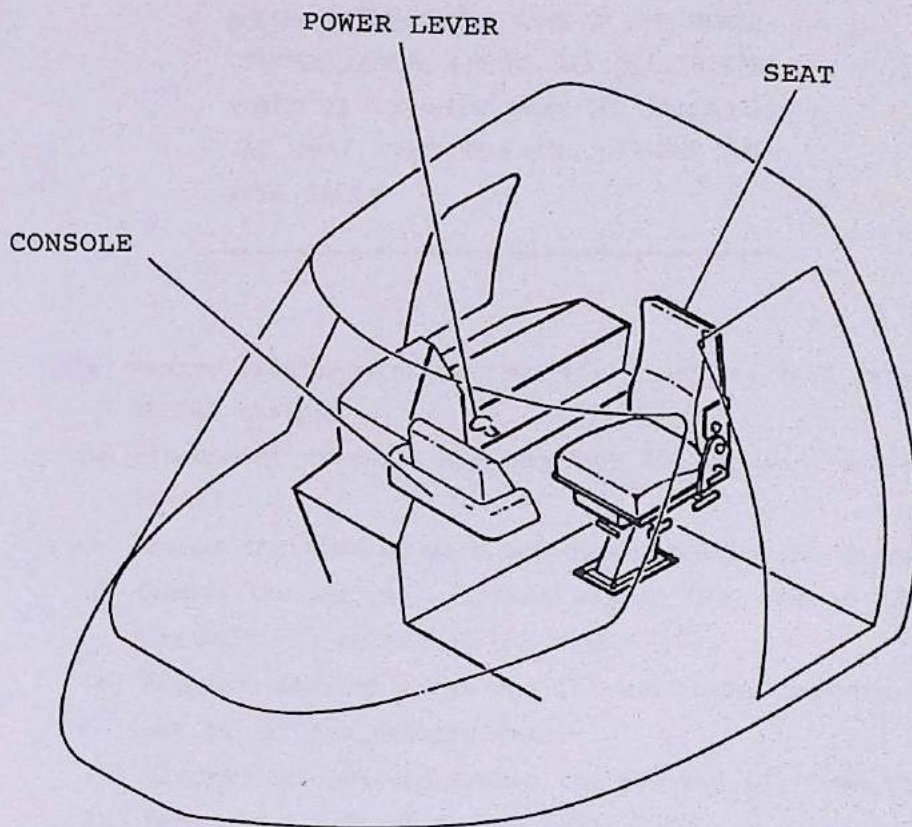

Fig. 1 Driver's Station - General Arrangement
1. Description and OperationA. Description (Fig. 1)